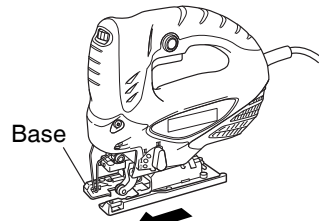

Fig. 9
- (2) Move the base fully forward (Fig. 9), and tighten the base bolt again.
- (3) Tighten the M5 bolt again. (Fig. 9)
- (4) Set the orbital position to "0".
- Move the base fully forward. (Fig. 9, 10)